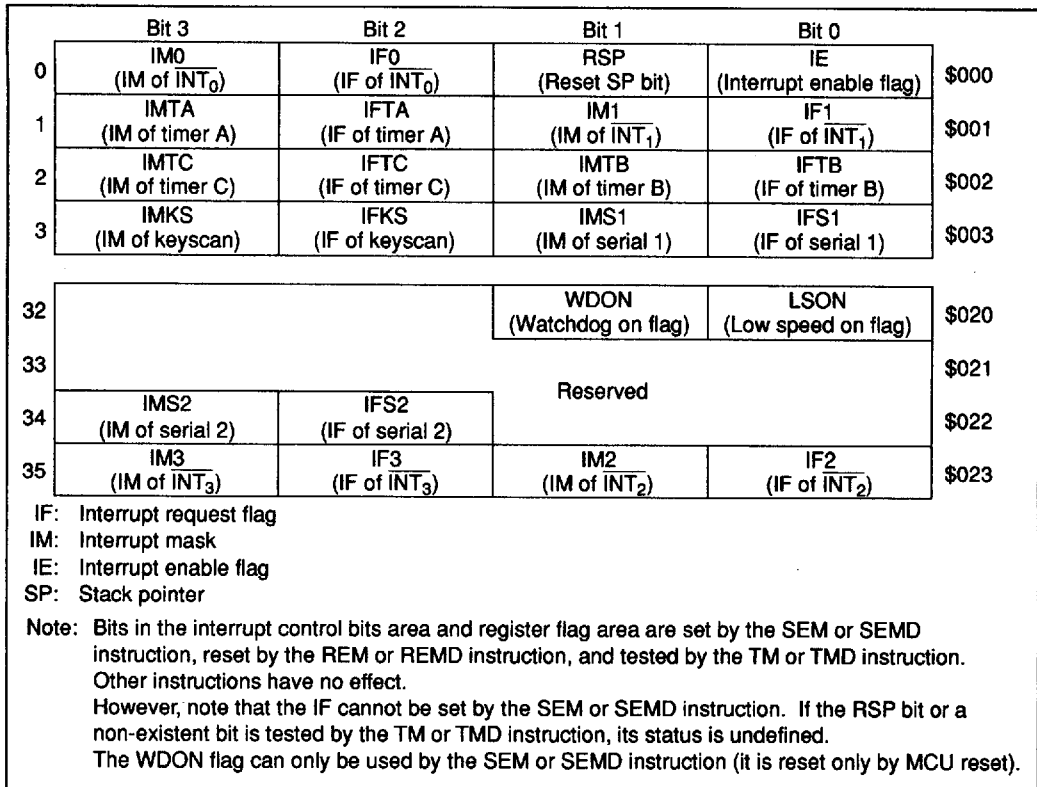

Figure 7 Configuration of Interrupt Control Bits and Register Flag Areas
**Interrupt Control Bits Area (\$000-\$003, \$020-\$023):** Used for interrupt control (figure 7). It can be accessed only by RAM bit manipulation instructions. However, note that the interrupt request flag cannot be set by software, the RSP bit is used only to reset the stack pointer, the LSON and WDON flags are accessed only by RAM bit manipulation instructions, and the WDON flag can only be set to 1 by the SEM and SEMD instructions.